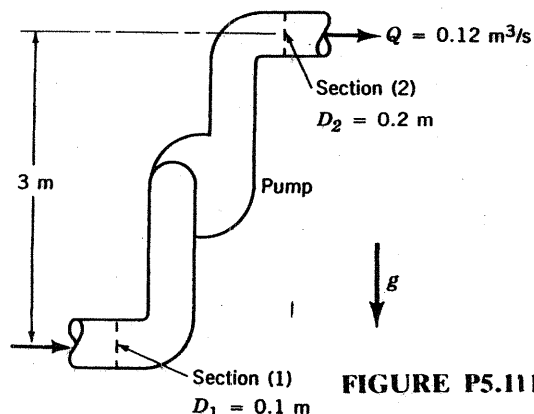

FIGURE P5.111
5.111 Gasoline ($SG = 0.68$) flows through a pump at $0.12 \text{ m}^3/\text{s}$ as indicated in Fig. P5.111. The loss between sections (1) and (2) is $\text{loss} = h_{Lg} = 0.3 V_1^2/2$. What will the difference in pressures between sections (1) and (2) be if 20 kW is delivered by the pump to the fluid?